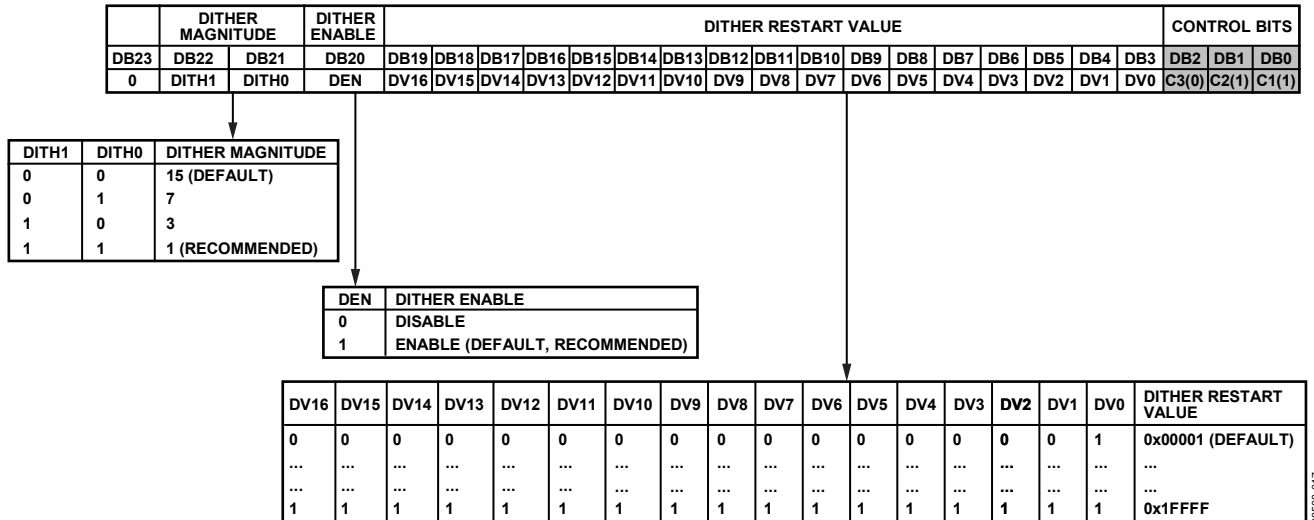

Figure 42. Register 3— Σ - Δ Modulator Dither Control Register Map
With Register 3, Bits[2:0] set to 011, the on-chip Σ - Δ modulator dither control register is programmed as shown in Figure 42. The recommended and default setting for dither enable is enabled (1).